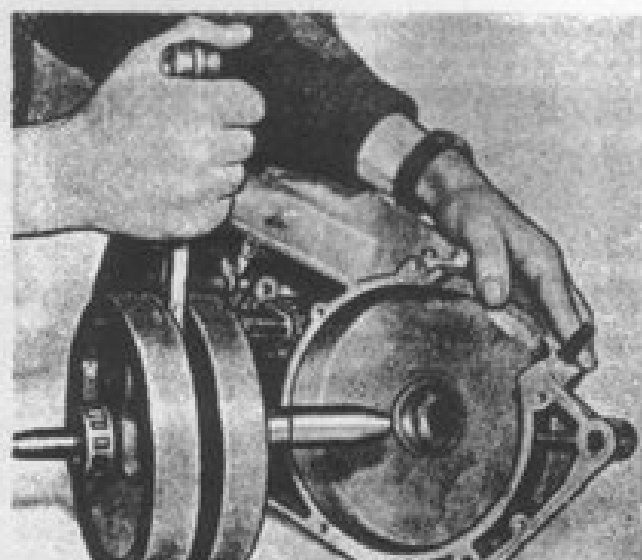

Fig. 21. Crankshaft mounting in crankcase left-hand half, HЖ-II-3 motorcycle.
4. Put tip 5, (Set No. 2) on the crankshaft L.-H. half axle, set the crankshaft into the crankcase L.-H. half (Fig. 21). Take off the tip.